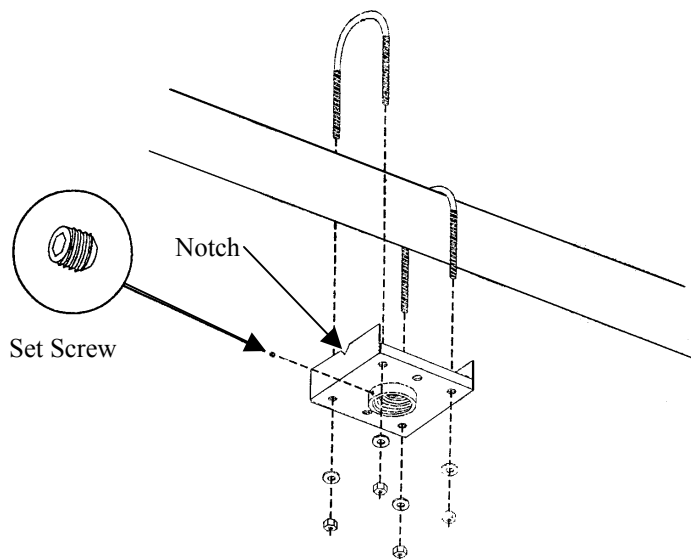

Figure 1. Ceiling Plate Assembly
1. Place two u-bolts onto supporting structure (pipe, truss beam, ceiling joist, etc.) (see Figure 1).